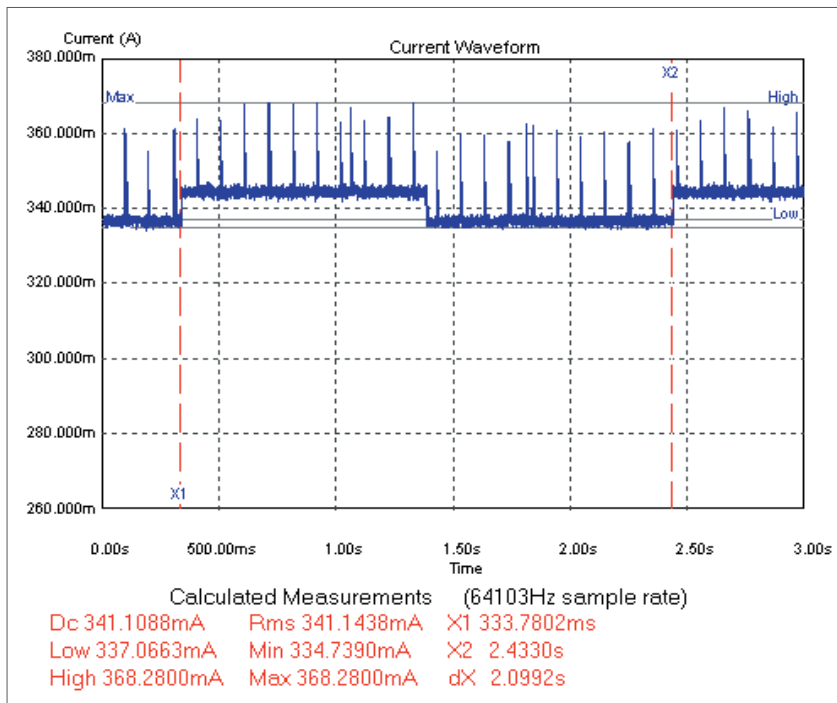

Figure 2. WLAN Card Idle Active Current Drain Waveform Capture
The 14565A software, set to its Waveform Capture Mode, was used to acquire three seconds of the WLAN card's active mode operation current drain, sampled at a high rate, as shown in Figure 2. The WLAN card was communicating to the Access Point (AP) but otherwise idle. Several things become apparent reviewing the signal's dynamic characteristics: